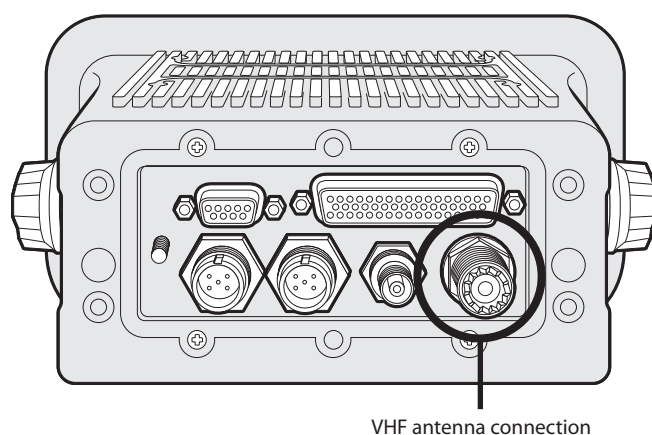

Figure 41 VHF antenna connection
- Connect the VHF antenna cable to the VHF connector on the AIS transceiver as shown in Figure 41.